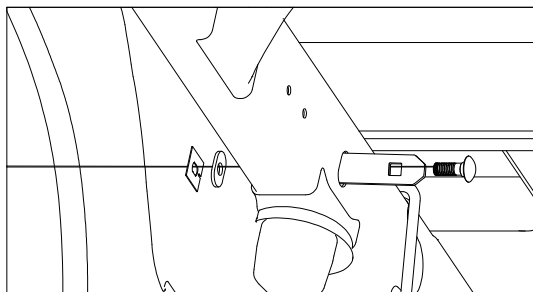

Figure C3: View looking at driver side frame.
2. **Install frame studs.** Locate the oval hole on the outside of the frame directly over the center line of the axle. To begin, place a 1/2" x 1-1/2" carriage bolt through a locking strap. Next, thread a fish wire onto the end of the carriage bolt. From the inside of the frame pass the fish wire through the oval hole located earlier. While holding the fish wire on the outside of the frame push the locking strap and carriage bolt into the frame, see Figure C3. Continue pulling on the fish wire until the threaded portion of the bolt is sticking out of the frame. Turn the carriage bolt until the square shoulder engages the square hole of strap. Before removing the fish wire, thread the oval frame spacer on the carriage bolt and into the oval slot. Remove the fish wire and thread a bolt retainer on the carriage bolt to hold the bolt in place. Repeat this step on other side of the truck.